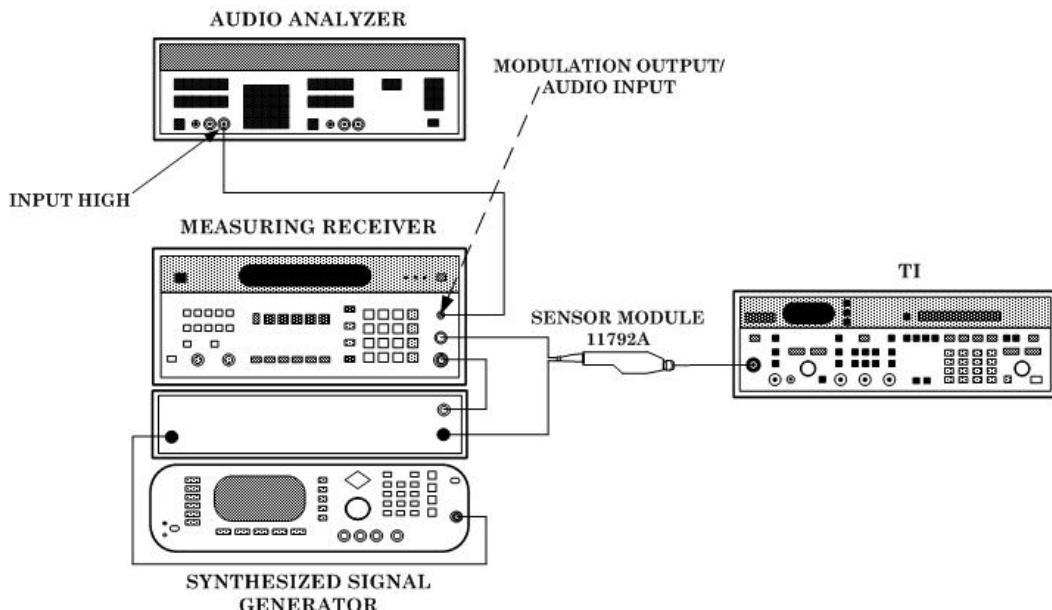

Figure 2. Frequency resolution hookup.
- (1) Connect the local oscillator **10 MHz REF OUT** to the measuring receiver **TIME BASE 10 MHz INPUT**.
- (2) Connect TI **10 MHz OUT** (rear panel) to the local oscillator **10 MHz REF IN** connector.
- (3) Finish connection as shown in figure 2.